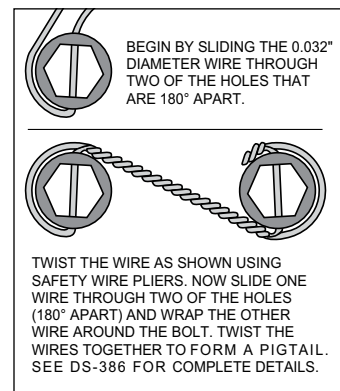

Figure 4
STEP 7 Orient the rotor (20) and the hat (21) as shown in Figure 1 and Photo 8. Attach rotor to hat using bolts (22) and washers (23). Apply red *Loctite*® 271 to the bolt threads and torque to value shown in Figure 1 using a criss-cross pattern. For an added measure of security, the bolts may be safety wired using standard 0.032 inch diameter stainless steel safety wire as shown in Figure 4. Refer to Wilwood's data sheet DS-386 (available at www.wilwood.com/Pdf/DataSheets/ds386.pdf) for complete safety wire installation instructions.
STEP 8 Slide the rotor registration adapter (24) onto the axle register on the axle flange with the smaller O.D. facing toward the rotor/hat (20/21), Photo 9. Slide the assembled rotor/hat (20/21) onto the axle flange. **NOTE:** The rotor/hat must fit flush against the axle flange or excessive rotor run out may result. Install three lug nuts (finger tight) to keep the rotor/hat assembly in place while continuing with the installation, Photo 10.